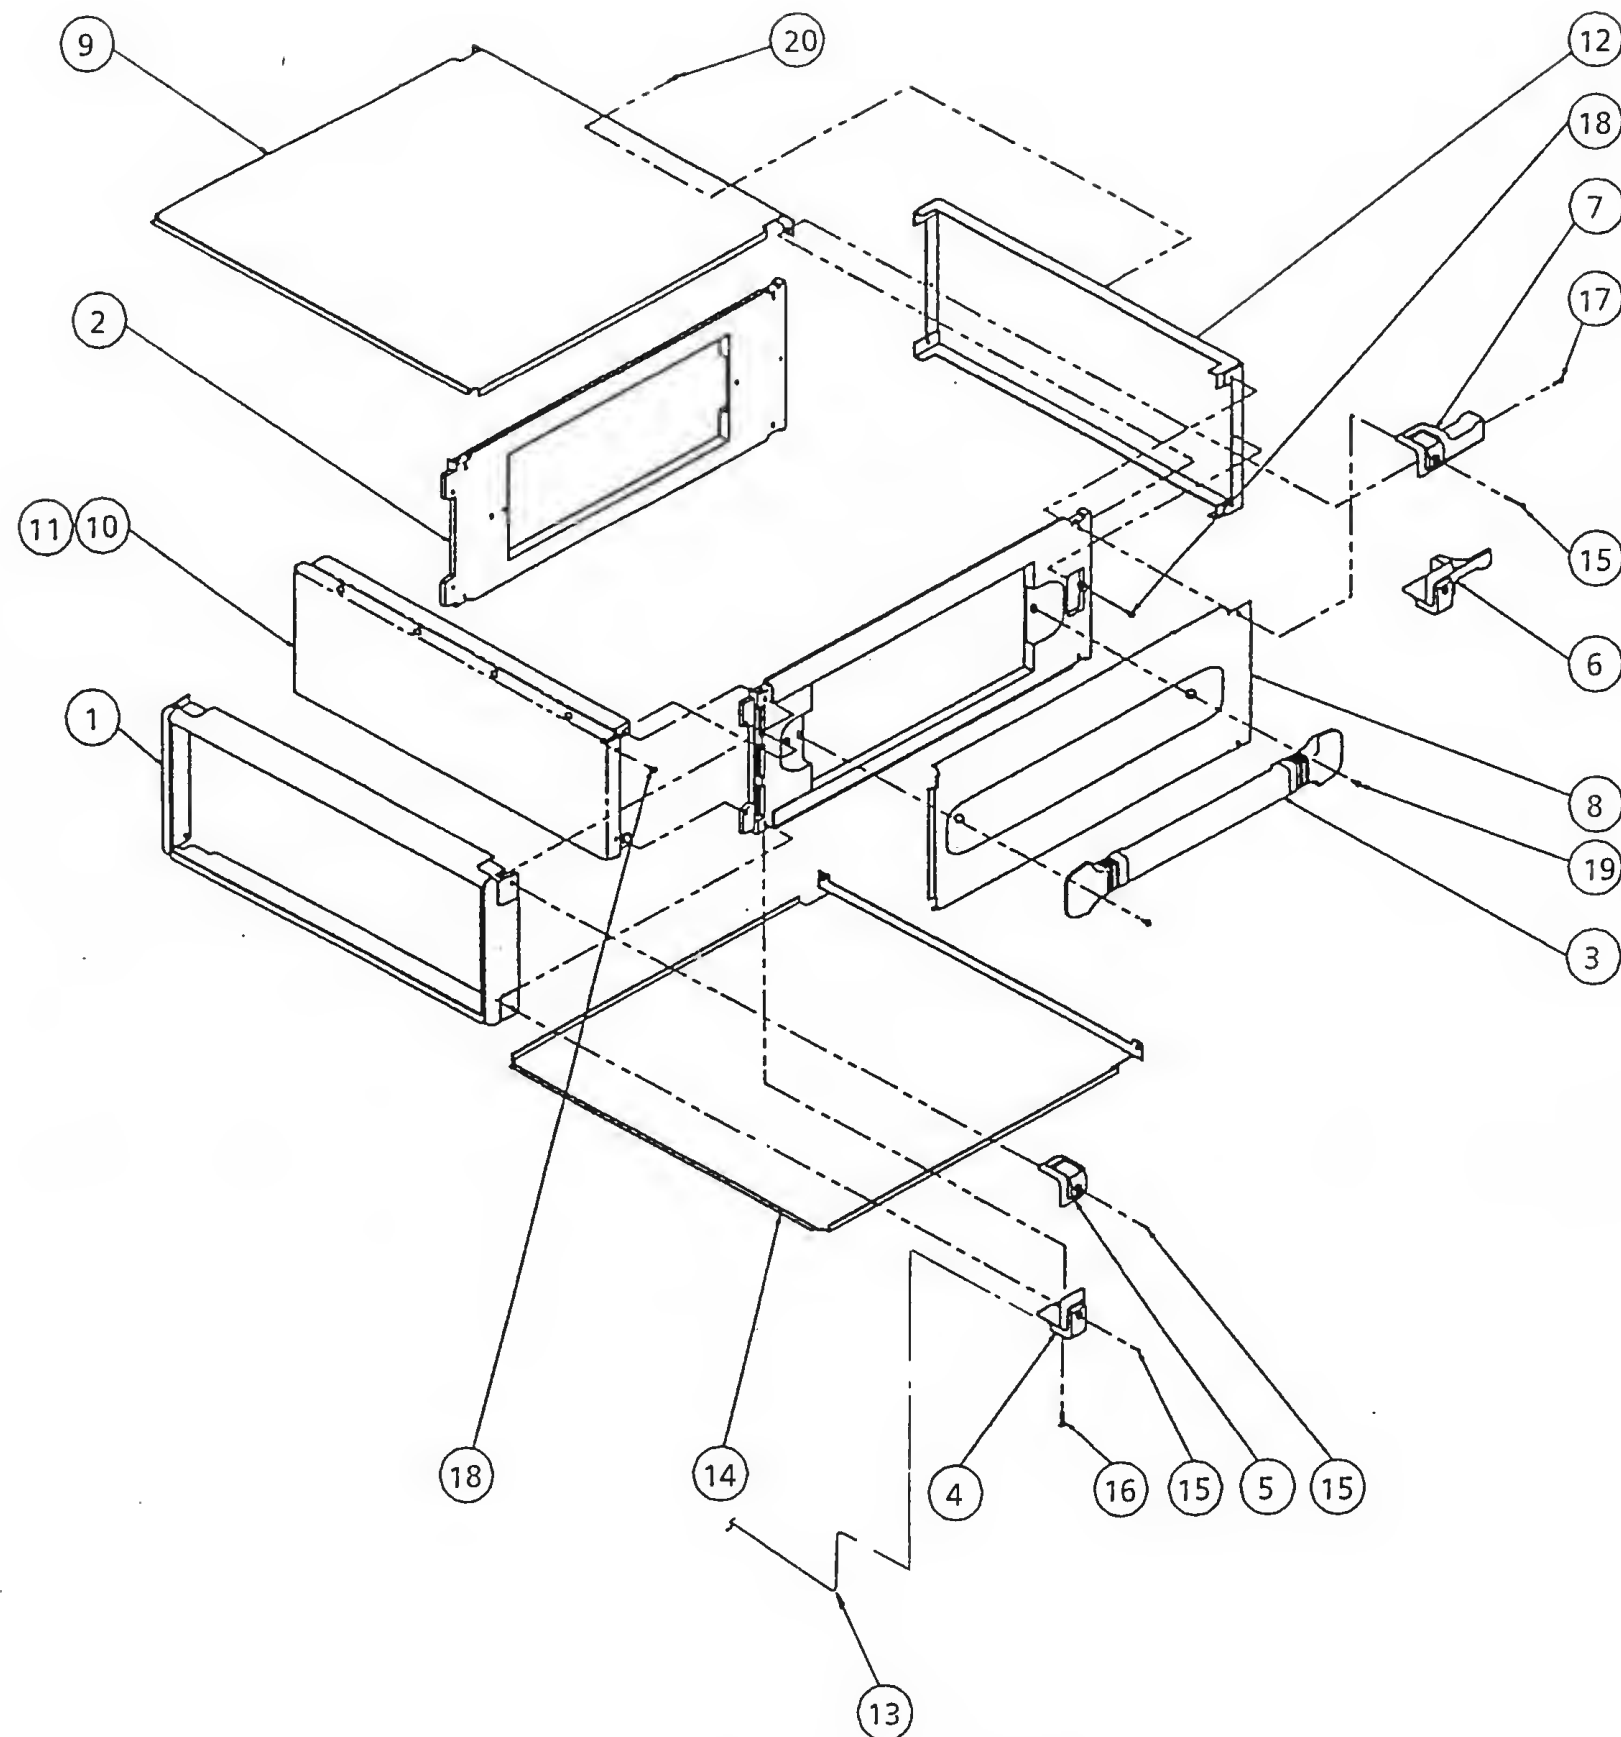

Fig. 5-1 Cabinet Assembly
The numbers in Figs. 5-1 to 5-8 indicate the mechanical parts. Table 5-1 to 5-7 lists the parts with the corresponding numbers.
### (1) Removing top cover ⑨ (Fig. 5-1)
### (2) Removing bottom cover ⑭ (Fig. 5-1)
### (3) Removing side cover ⑧ (Fig. 5-1)